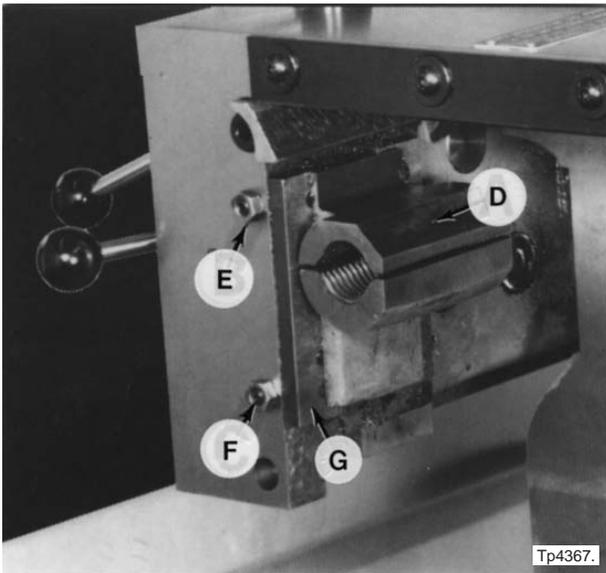
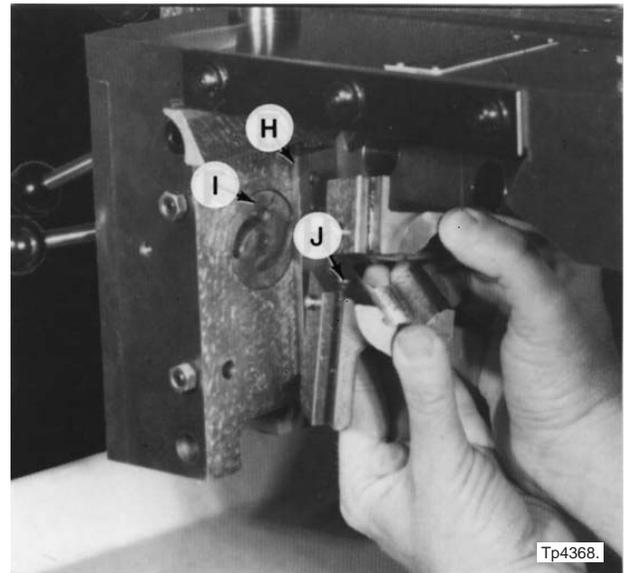
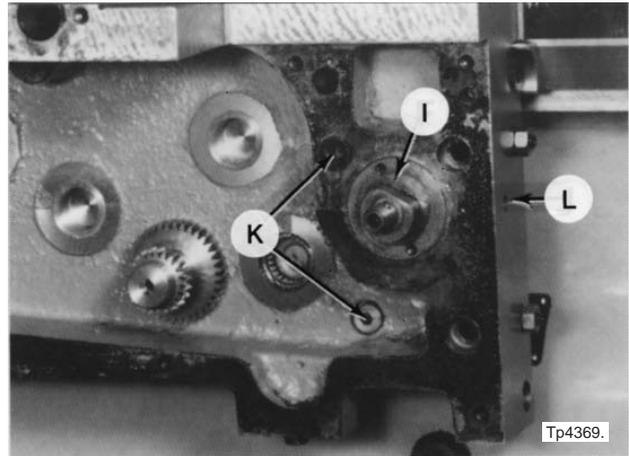
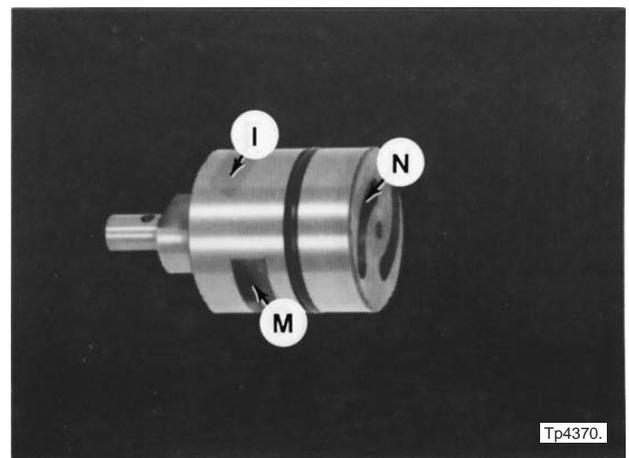

Figure 1.41 - Lead Screw Nut
Figure 1.42 - Lead Screw Nut Removal
Figure 1.43 - Lead Screw Nut Cam and Gib Screws
Figure 1.44 - Cam for Lead Screw Nut
16. Pull the carriage to the right by hand until lead screw nut "D", Figure 1.41, clears the bed.
Hold gib "G", Figure 1.41, to prevent it from dropping from position.
21. Remove gib "G", Figure 1.41 .
If it is necessary to remove gib "H" or cam "I", Figure 1.42, perform steps 23 through 37.
36. Remove two screws "K", Figure 1.43, and remove gib "H", Figure 1.42 .
37. Loosen screw "L", Figure 1.43, and remove cam "I".
1. Replace cam "I", Figures 1.43 and 1.44, with cam slots "M", Figure 1.44, in line with screw "L", Figure 1.43 .
2. Replace gib "H", Figure 1.42, using two screws "K", Figure 1.43 .
15. Replace both halves of lead screw nut “D”, Figure 1.41, placing the pins on the lead screw nut in cam slots “N”, Figure 1.44 .
16. Replace gib “G”, Figure 1.41 using the two screws removed in step 20 of the lead screw nut removal procedure.
- a) Tighten screw “L”, Figure 1.43, gradually clockwise until handle “U”, Figure 1.6, has approximately 5 overtravel after lead screw nut pin “J”, Figure 1.42, contacts the upper half of the lead screw nut.
- c) Alternately tighten two screws “F”, Figure 1.41, until pressure is required to close the lead screw nut.